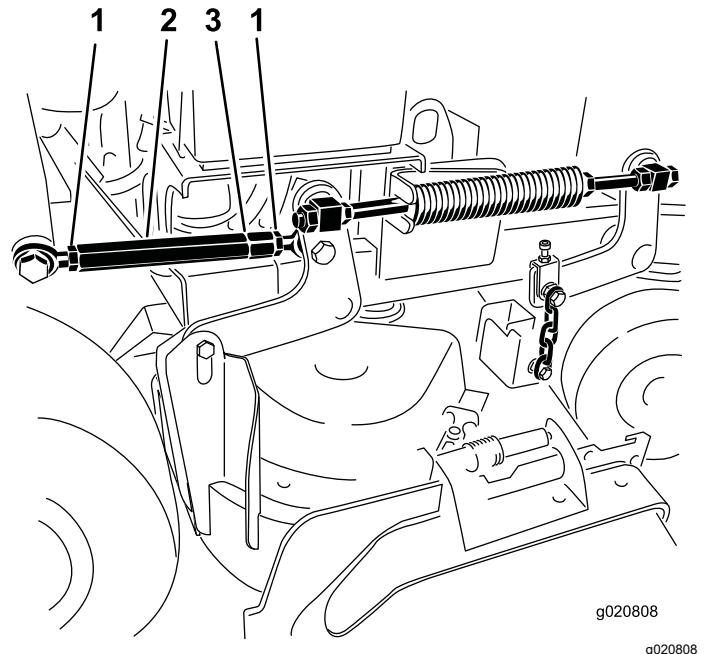

Figure 83
4. Loosen the jam nuts at both ends of the turnbuckle (Figure 83).
- Note:** The end of the turnbuckle with the groove has left threads (Figure 83).